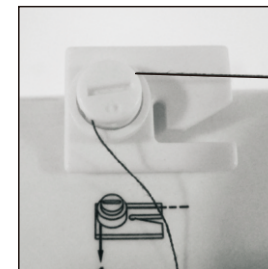

Fig.12
2. Guide the thread through the bobbin winder tension disk on the upper side of the machine. (Fig.12)